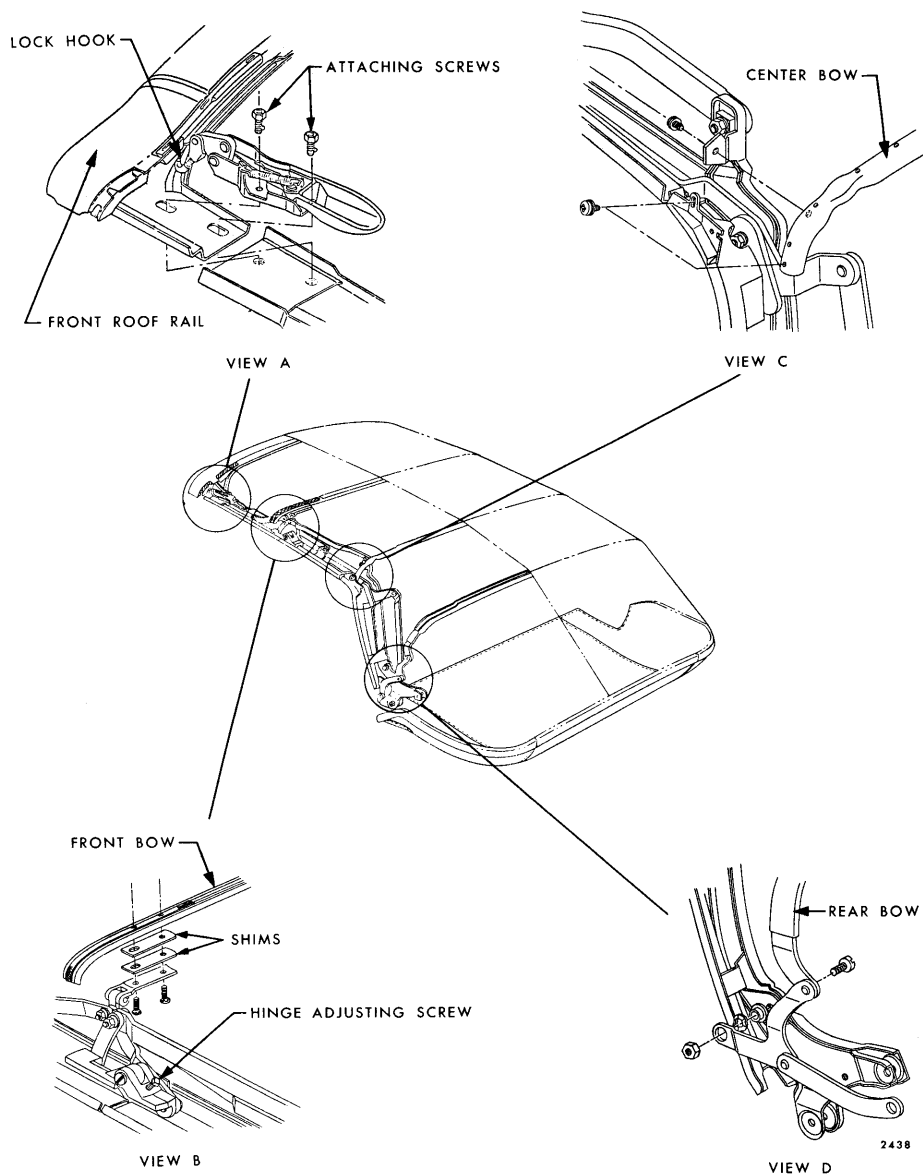

Fig. 13-81—"B and C" Body Folding Top Adjustments
2. Center side roof rail hinge adjusting screw improperly adjusted.	Adjust screw counterclockwise (Fig. 13-81).
2. Center side roof rail hinge adjusting screw improperly adjusted.	Adjust screw clockwise (Fig. 13-81).